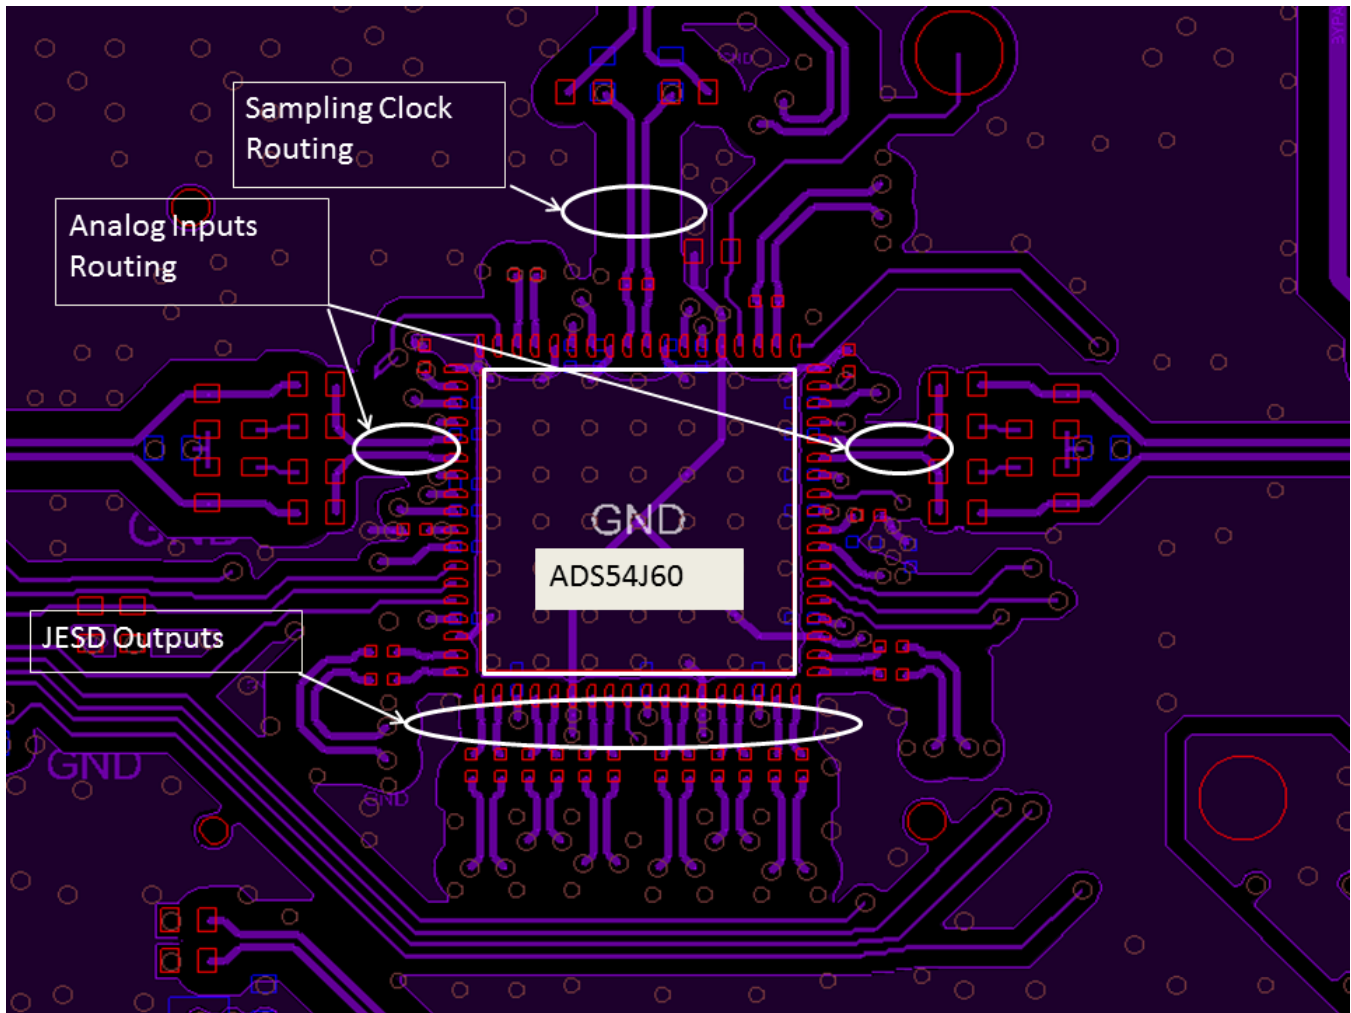

Figure 140. ADS54J60 EVM layout
The device evaluation module (EVM) layout can be used as a reference layout to obtain the best performance. A layout diagram of the EVM top layer is provided in Figure 140. A complete layout of the EVM is available at the ADS54J60 EVM folder. Some important points to remember during board layout are:
- Analog inputs are located on opposite sides of the device pinout to ensure minimum crosstalk on the package level. To minimize crosstalk onboard, the analog inputs must exit the pinout in opposite directions, as illustrated in the reference layout of Figure 140 as much as possible.
- In the device pinout, the sampling clock is located on a side perpendicular to the analog inputs in order to minimize coupling between them. This configuration is also maintained on the reference layout of Figure 140 as much as possible.